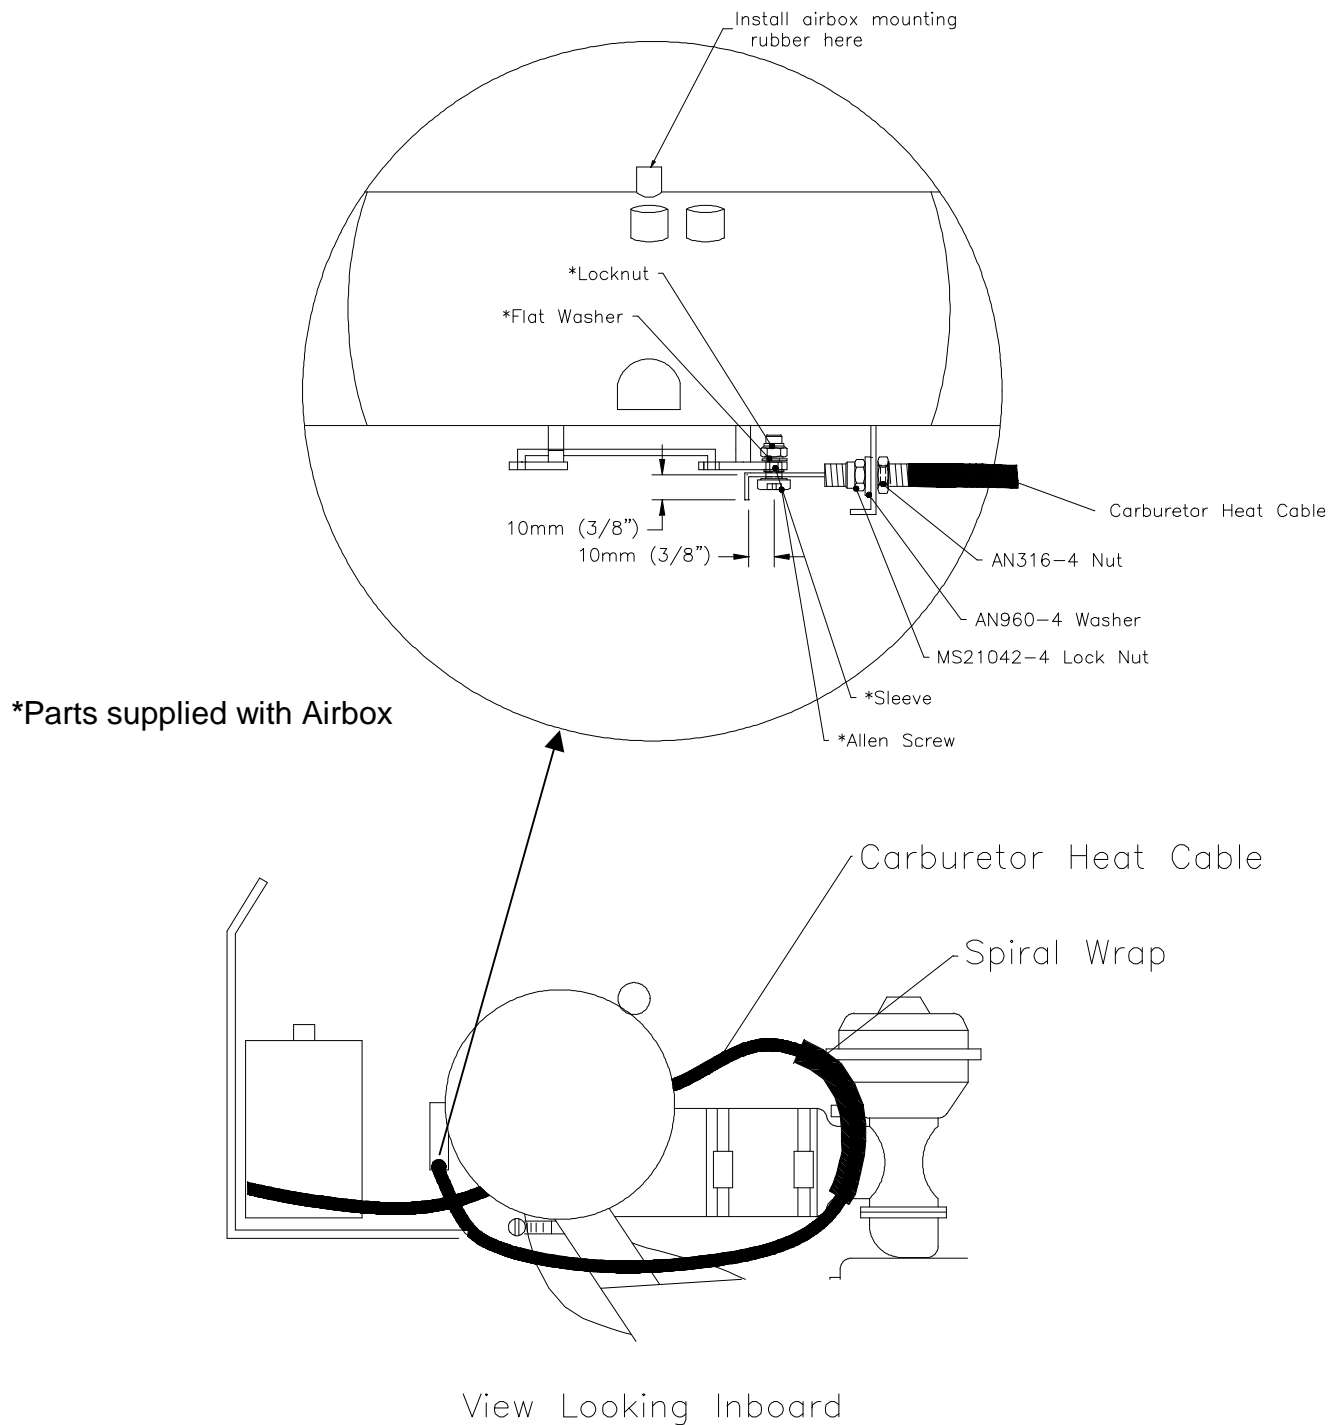

Figure 1
- 10.7 Install the new carburetor heat cable, route the cable through the firewall. Reference figure 1.
- 10.17 Route and connect the carburetor heat cable as shown in figure 1. Secure the cable as necessary with tie-wraps. Spiral wrap may be necessary where cable passes the right hand carburetor. Reference figure 1.